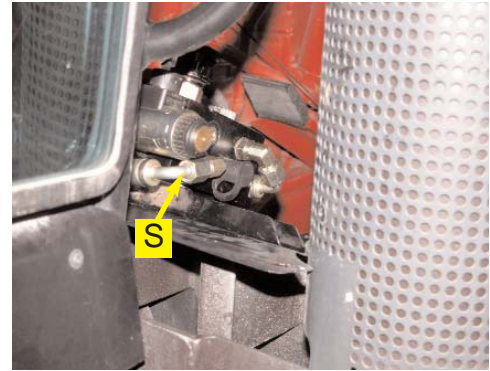

Figure 7a. Installed pressure hose at the automated steering block.
Connect the pressure hose (S) from the **P** port on the automated steering block to the pressure run tee fitting (**H**) installed in step 6. Connect the tank hose (S) from the **T** port on the Automated Steering Block to the tank run tee fitting (**H**) installed in step 6. (Figure 7a., 7b. and 7c.)